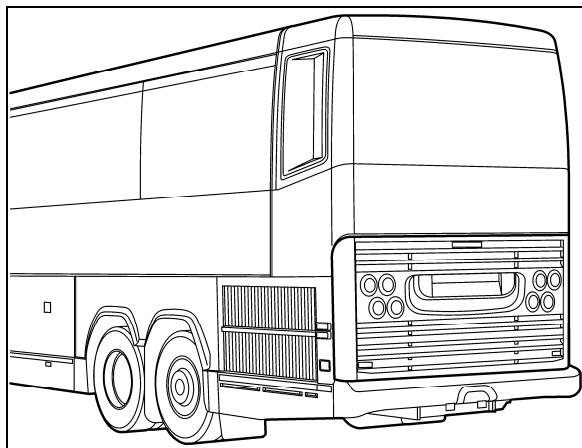

FIGURE 10: ENGINE COMPARTMENT DOOR
2. Open engine compartment door (Fig. 10).